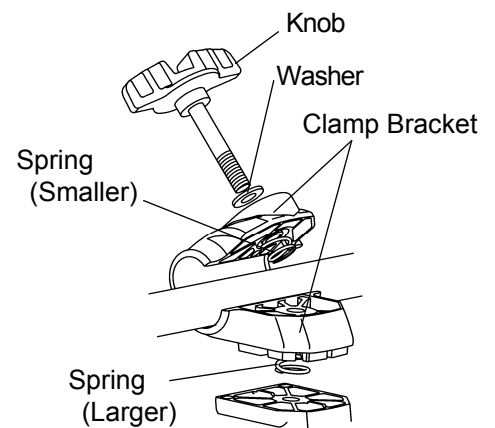

Fig.2
3. And the other parts are assembled as shown on fig.2.